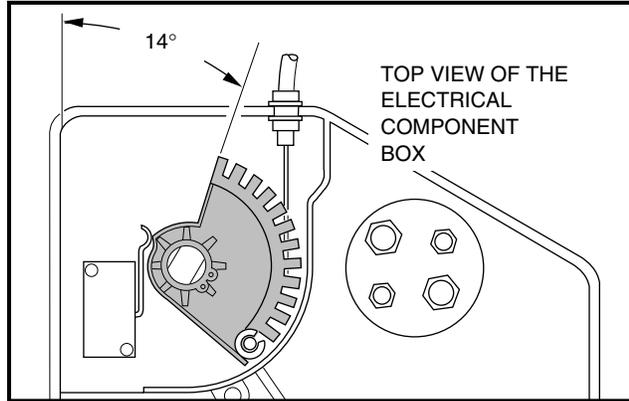

Figure 5-22 Accelerator Cable
- 6.2. Loosen the jam nuts (18) and disconnect the accelerator rod (17) at the accelerator pedal. Adjust the length of the rod (**Figure 5-8, Page 5-7**) to obtain an accelerator cable cam position of 14° as shown (**Figure 5-22, Page 5-16**). See following **CAUTION**.